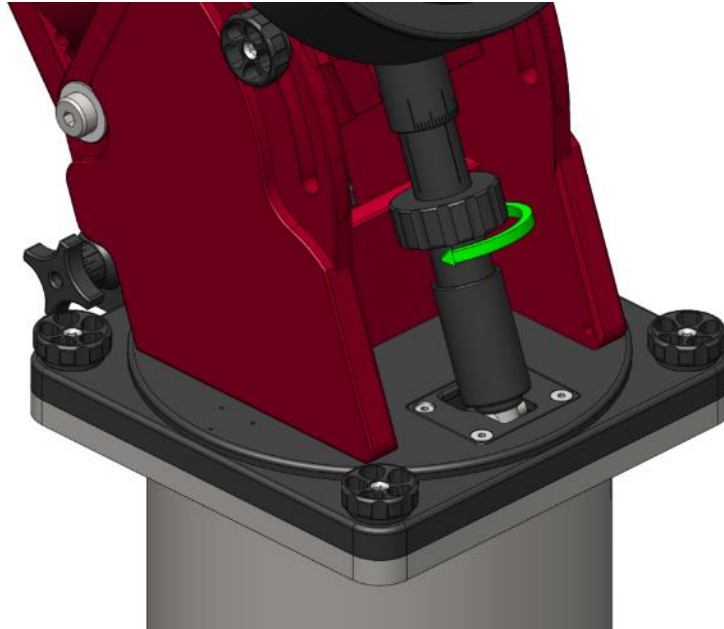

Figure 51: Rotating the Altitude Adjuster in the direction of the arrow lowers the MX axis (right hand rule applies).
2. Rotate the large central knob (near the arrow in Figure 51) to raise or lower the polar axis.